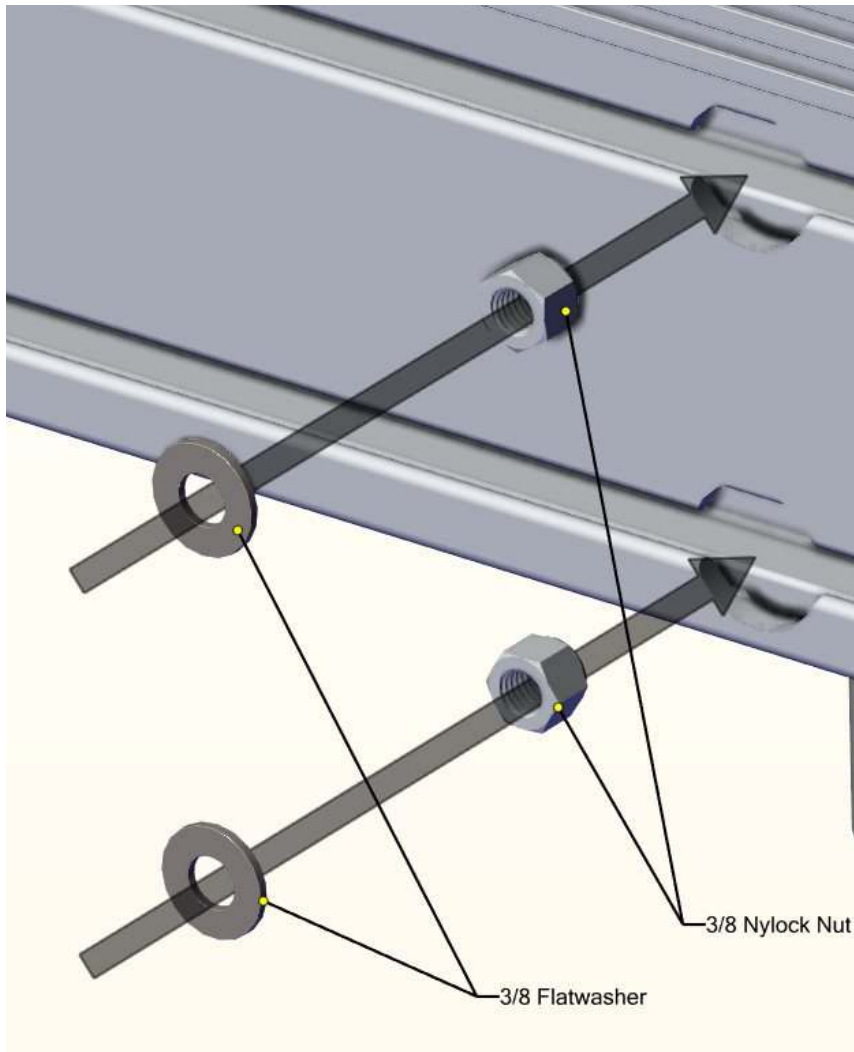

FIG. 1
Insert (2) 3/8" nylock nuts and (2) flatwashers into each of the nut tracks through the holes provided and adjust to the desired position see Fig 1.